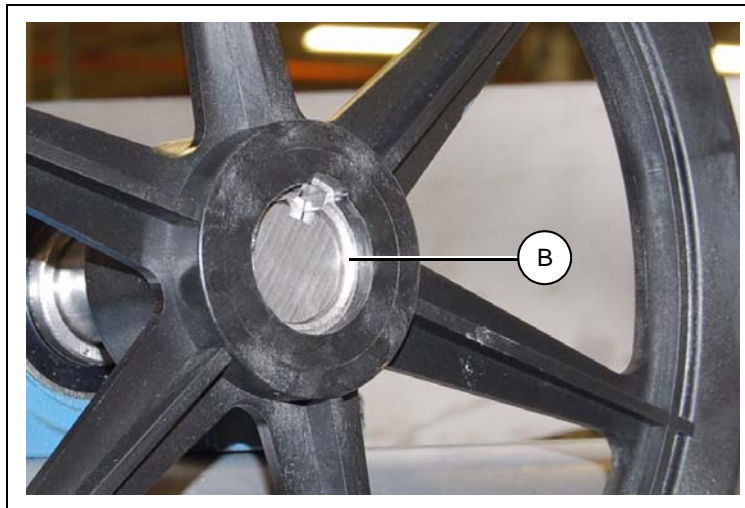

Figure 8R
NOTE: End of shaft should align flush with the metal face of the pulley bore (B). (See Figure 8R.)